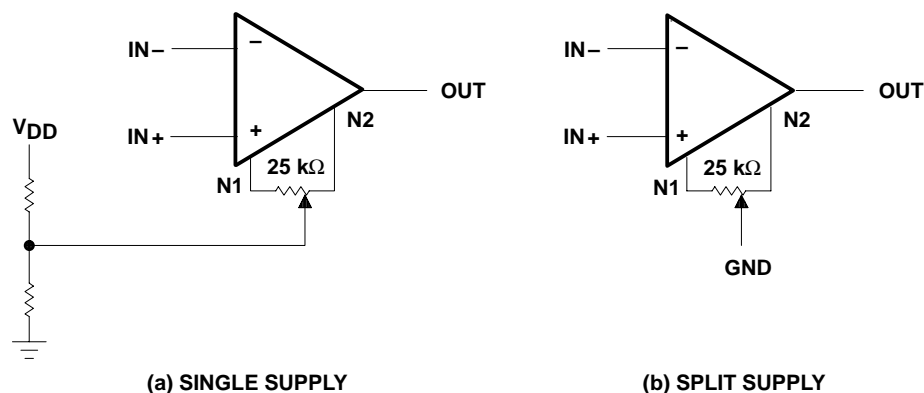

**Figure 104. Common Versus Separate Supply Rails**
1. Power the linear devices from separate bypassed supply lines (see Figure 104); otherwise, the linear device supply rails can fluctuate due to voltage drops caused by high switching currents in the digital logic.